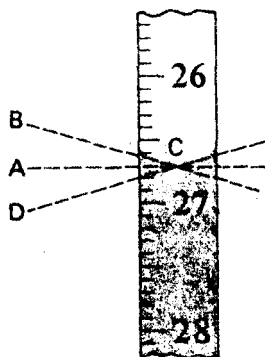

Figure 1-11
- Observe that the surface of such a liquid is slightly curved, concave if it wets the glass, and convex if it does not wet the glass. Such a curved surface is called a meniscus. If the liquid wets the glass, you read to the bottom of the meniscus, as shown in Figure 1-11. Your eye must be looking along the horizontal line AC at the bottom of the curve. If you look along the line BC or DC, you will get an incorrect reading. Locate the meniscus when reading the water level in the buret.